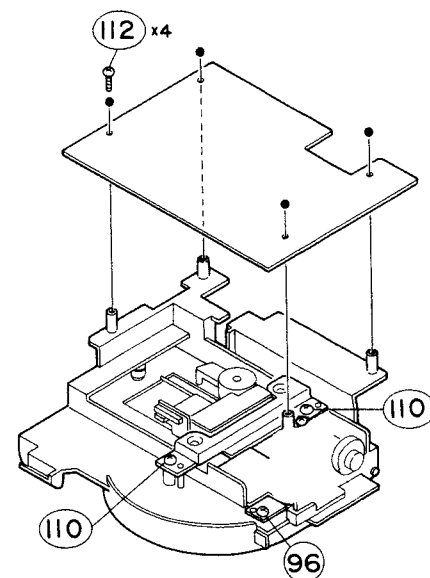

Fig. 7-18
■ CD control board (Fig. 7-18)
1. Remove four screws (112) retaining the CD control board from the CD case.